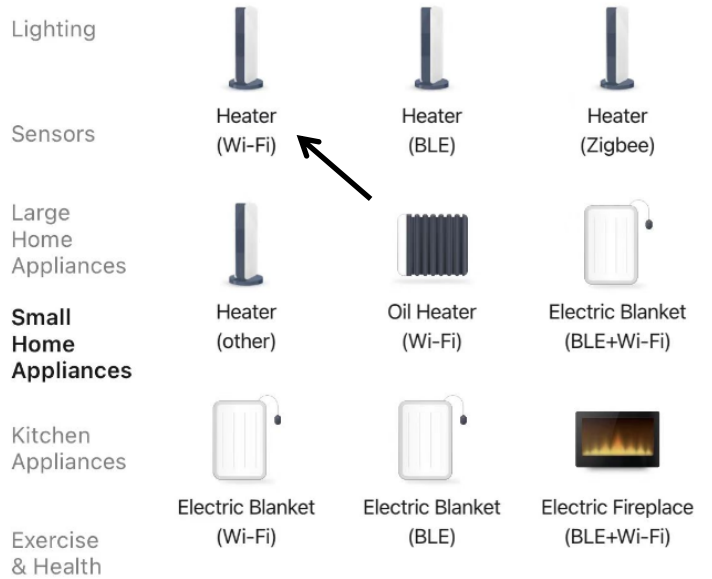

Fig.2
3. Find "Small Home Appliances" and tap the icon "Heater (Wi-Fi)". (Fig.2)